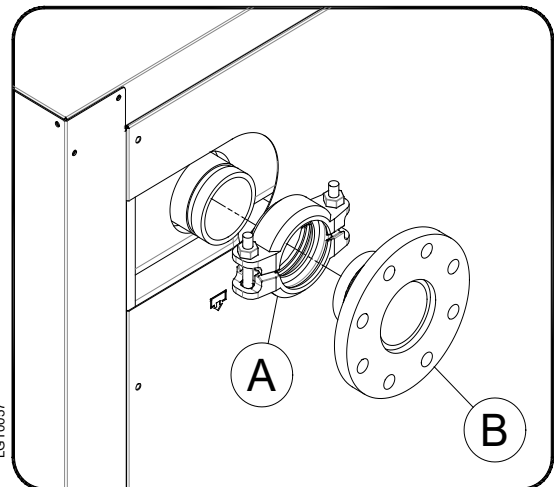

Fig.2
Assembly flange (B) and clamp joint (A) as shown in Fig.2